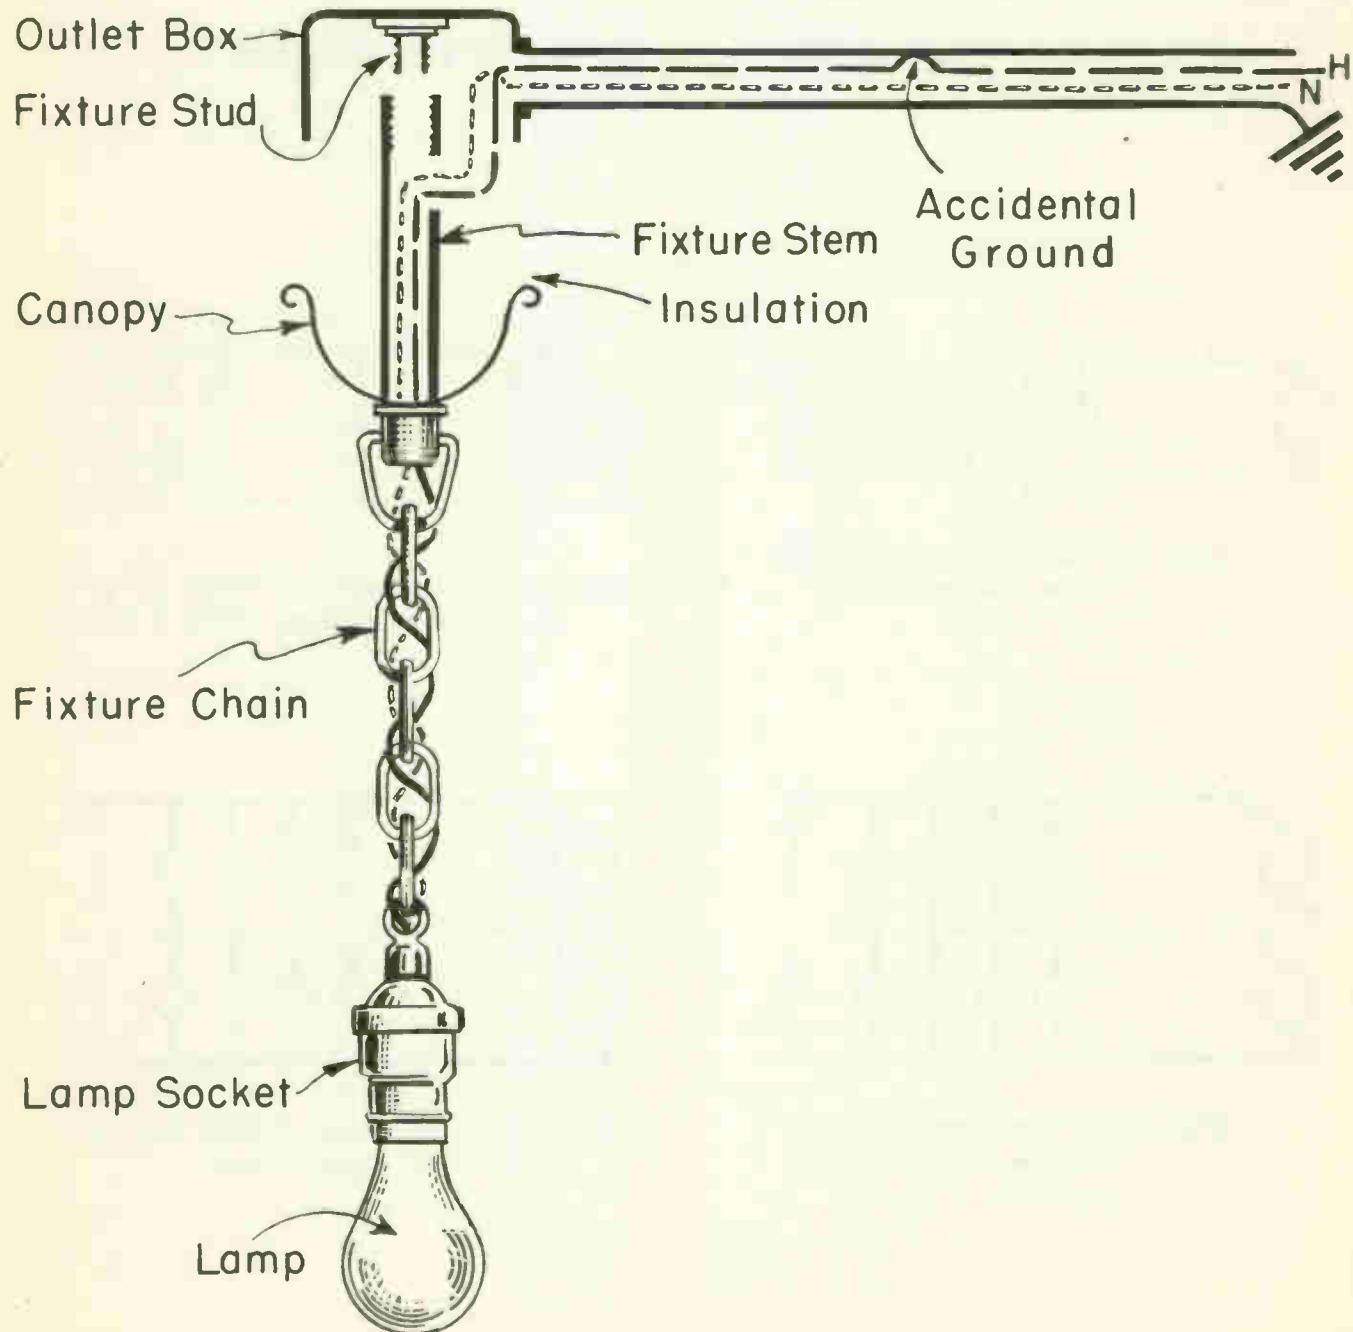

Fig. 6
6. Polarization does away with the insulating of the individual fixtures, Fig. 6.